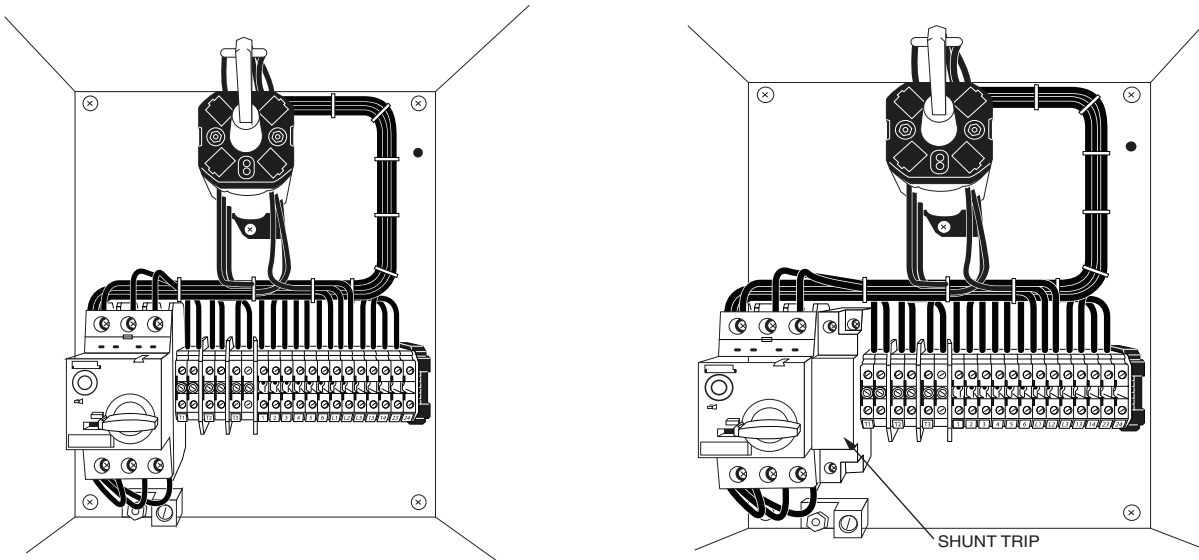

Fig. 130 — MMS Before and After Shunt Trip Installation
6. Reconnect the wiring. Figure 130 shows the MMS before and after shunt trip installation.